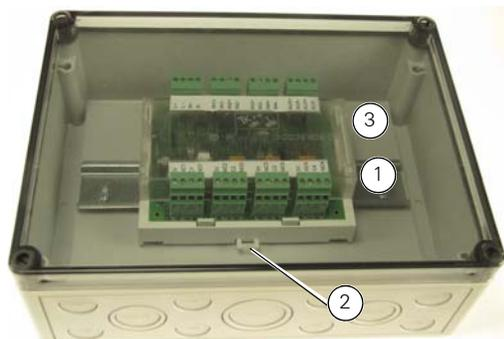

Fig. 2: QIO850 Module fitted in the optional IP66 rated enclosure
A suitable enclosure can be ordered under part number 557.201.410. This is rated to IP66, and is supplied complete with a mounting plate (Item 3 in Figure 2) and a piece of DIN rail.
Snap the QIO850 module onto the DIN rail with the release clip protruding. The complete assembly is as shown in Figure 2.
If you need to remove the module from the rail, pull the DIN rail release tab (item 2 in Figure 2).